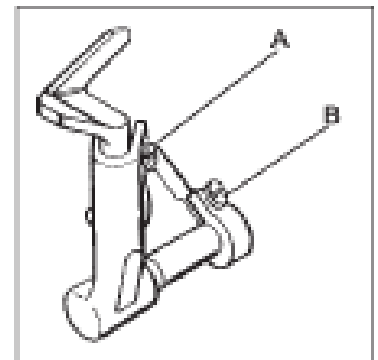

Fig. 16
*By loosening Screws (A) and (B), adjust the longitudinal position of front Needle Guard so that there should be clearance of 0-0.3 mm between the Guard and each of Needles respectively when the point of Loper passes each center of Needles.(Fig. 16)